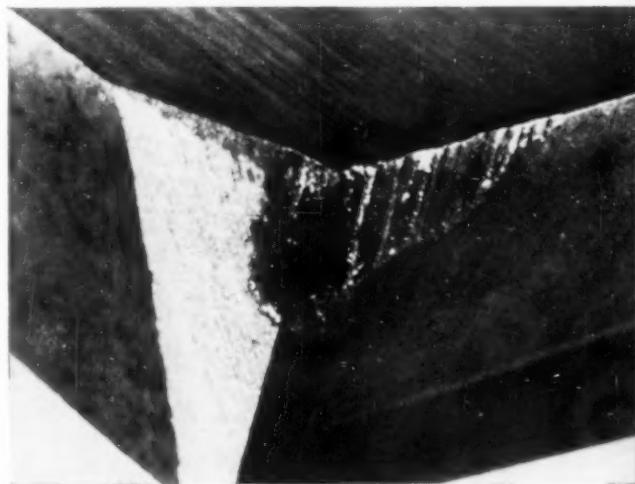

Fig. 4. (above) Flank wear and cratering on carbide tip used for milling at 15,000 fpm.
**Tool Life:** When machining steel with carbides at a depth of 0.150 inch and a feed of 0.010 inch per tooth or per revolution, a tool-chip interface temperature of 2600 F was reached within a short time at cutting speeds above 1000 fpm. When cutting a mild steel workpiece at 15,000 fpm a burned surface and completely ruined carbide tips, *Fig. 4*, were convincing evidence of complete failure after less than one pass. The machine used was especially developed for high-speed machining of light alloys which, due to their low specific cutting energies, can be cut at much higher speeds than ferrous materials6.